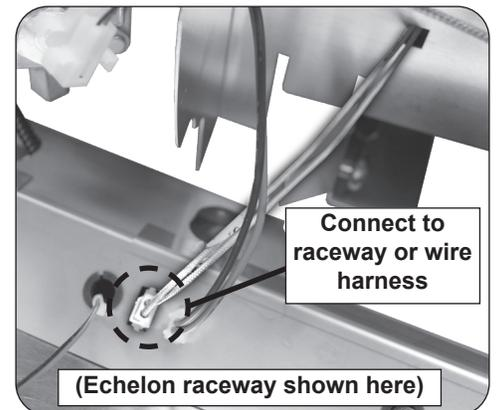

Fig. 5-3 Connect new electrode wires
7. Connect the electrode wire to the available wire harness connector or raceway connector used to connect the old electrode (Fig. 5-3). Test the igniter by reconnecting the power and pressing the corresponding control knob and observing that the tip of the igniter glows orange.